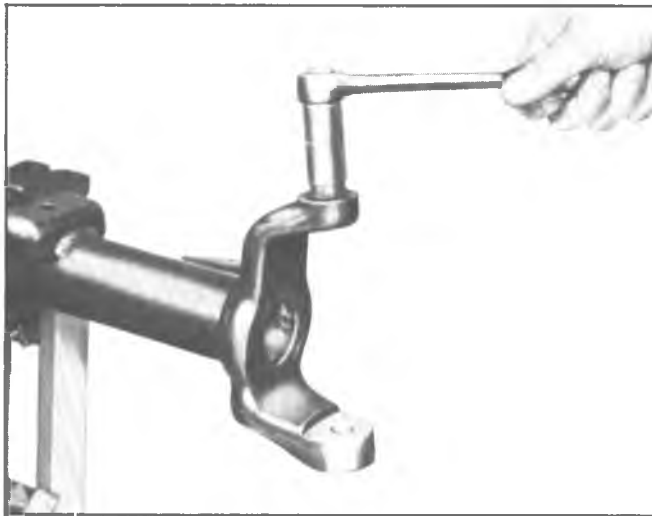

Fig. 67—Loosening Ball Stud Adjusting Sleeve
**CAUTION:** Do not remove the yoke upper ball stud adjusting sleeve unless new ball studs are being installed. If it is necessary to loosen the sleeve to remove the knuckle, do not loosen it more than two threads using Spanner J-23447 as shown in Figure 67. The nonhardened threads in the yoke can be easily damaged by the hardened threads in the adjusting sleeve if caution is not used during knuckle removal.